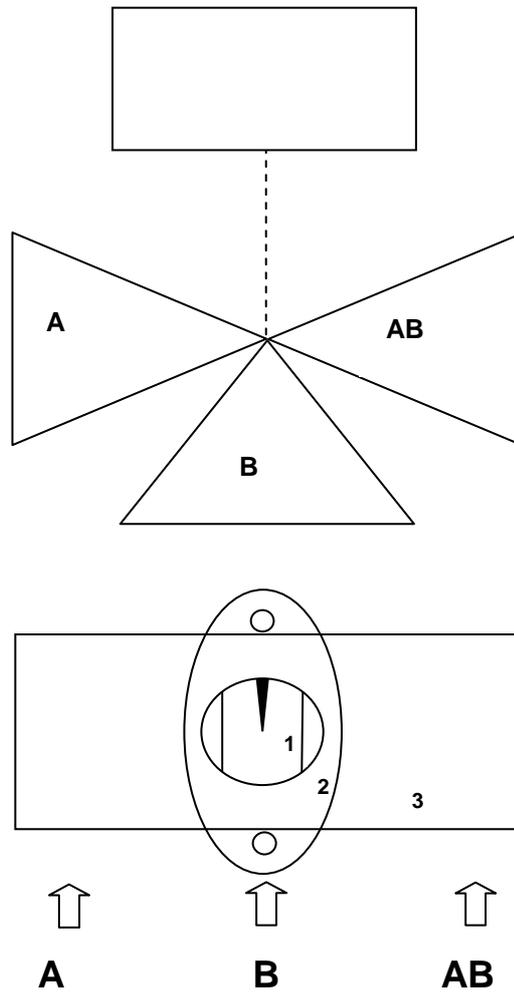

Figure 39 Actuator mounting diagram.
1. Rotate the valve rod (detail 1) so that the point of the arrow is opposite the side of the valve body (detail 3) marked with A, B and AB. (see Figure 39).
2. Remove the actuator bushing (I/SBSC28.2) and fit it to the rod (detail 1 of Figure 39).
4. Fit the actuator to the valve body (detail 3) and secure it to its bracket (detail 2) (see Figure 39).
If for any reason it is not possible to mount the actuator, rotate the bracket (detail 2 of Figure 39) through 90°.
Figure 40 Description of actuator: The “pointer” indicates and controls the position of the actuator in Figure 39, the “release button” is used for moving the “pointer” by hand.